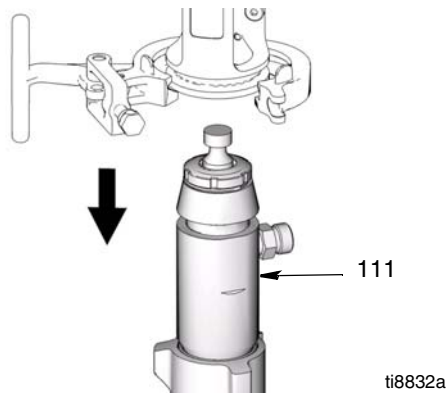

FIG. 12
8. (FIG. 12) Remove pump (111) from sprayer.